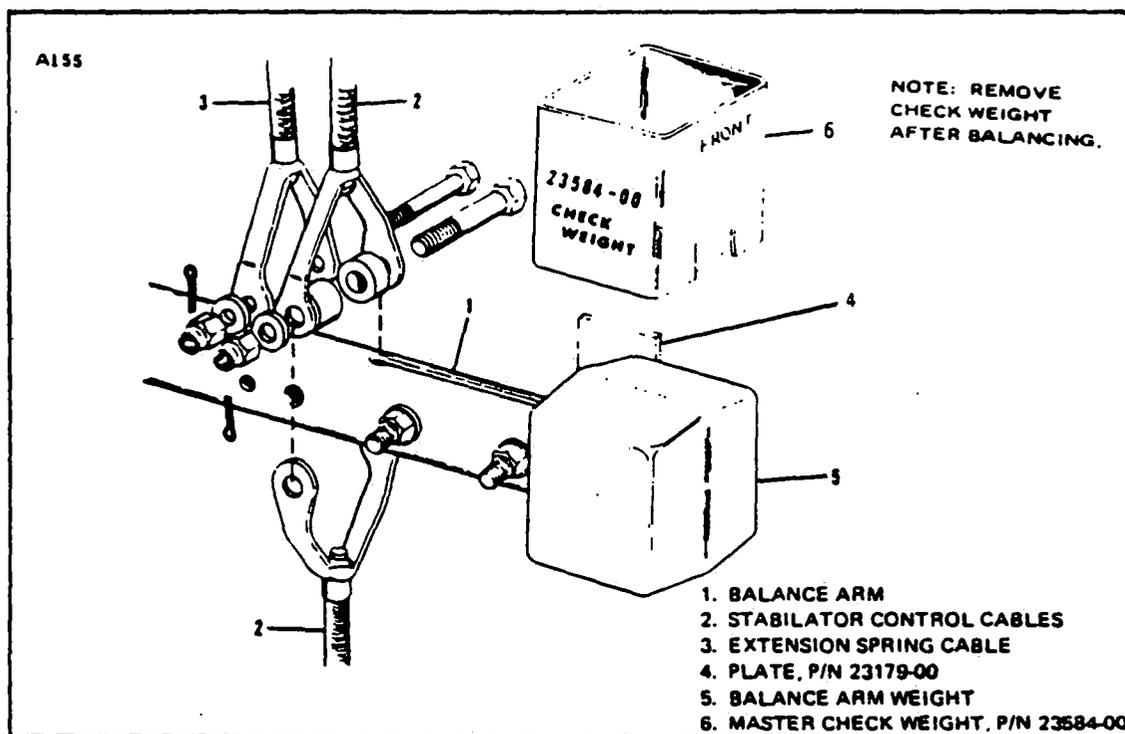

Figure 4-11. Balancing Stabilator, Serial Nos. 30-1 to 30-852 incl., 30-854 to 30-901 incl., 30-1717, 30-1745 to 30-2000 incl.
4-49. CHECKING AND BALANCING STABILATOR. (Serial Nos. 30-1 to 30-852 inclusive; 30-854 to 30-901 inclusive; 30-1717; 30-1745 to 30-2000 inclusive.) (Refer to Figure 4-11.)
- c. Master check weight (6) (P/N 23584-00) (weight 1.58 pounds) should be placed on top of balance weight (5) (P/N 23594-00) with the side marked "FRONT" facing forward. (Refer to Figure 4-11.) If this is not enough weight to obtain static balance with the balance arm level, plates (4) (P/N 23179-00) must be added to the forward balance weight attaching bolt until 100% static balance is obtained or until up to two plates more than that required for balance have been added. Generally, it should not be necessary to use more than eight plates. If a total of more than eight plates is necessary to obtain balance, recheck the procedure in steps "b" and "c".
c. Master check weight (P/N 23584-00) (weight 1.58 pounds) should be placed on top of balance weight (5) (P/N 23594-00) with the side marked "FRONT" facing forward. (Refer to Figure 4-11.) If this is not enough weight to obtain static balance with the balance arm level, plates (4) (P/N 23179-00) must be added to the forward balance weight attachment bolt until 100% static balance is obtained or until up to two plates more than that required for balance have been added. Generally, it should never be necessary to use more than eight plates. If a total of more than eight plates is necessary to obtain balance, recheck the procedure in steps "b" and "c."